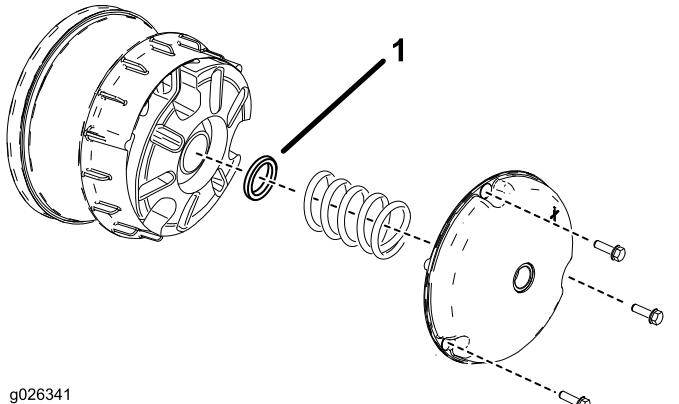

Figure 59
2. Remove the bolts securing the primary clutch cover as shown in Figure 59.